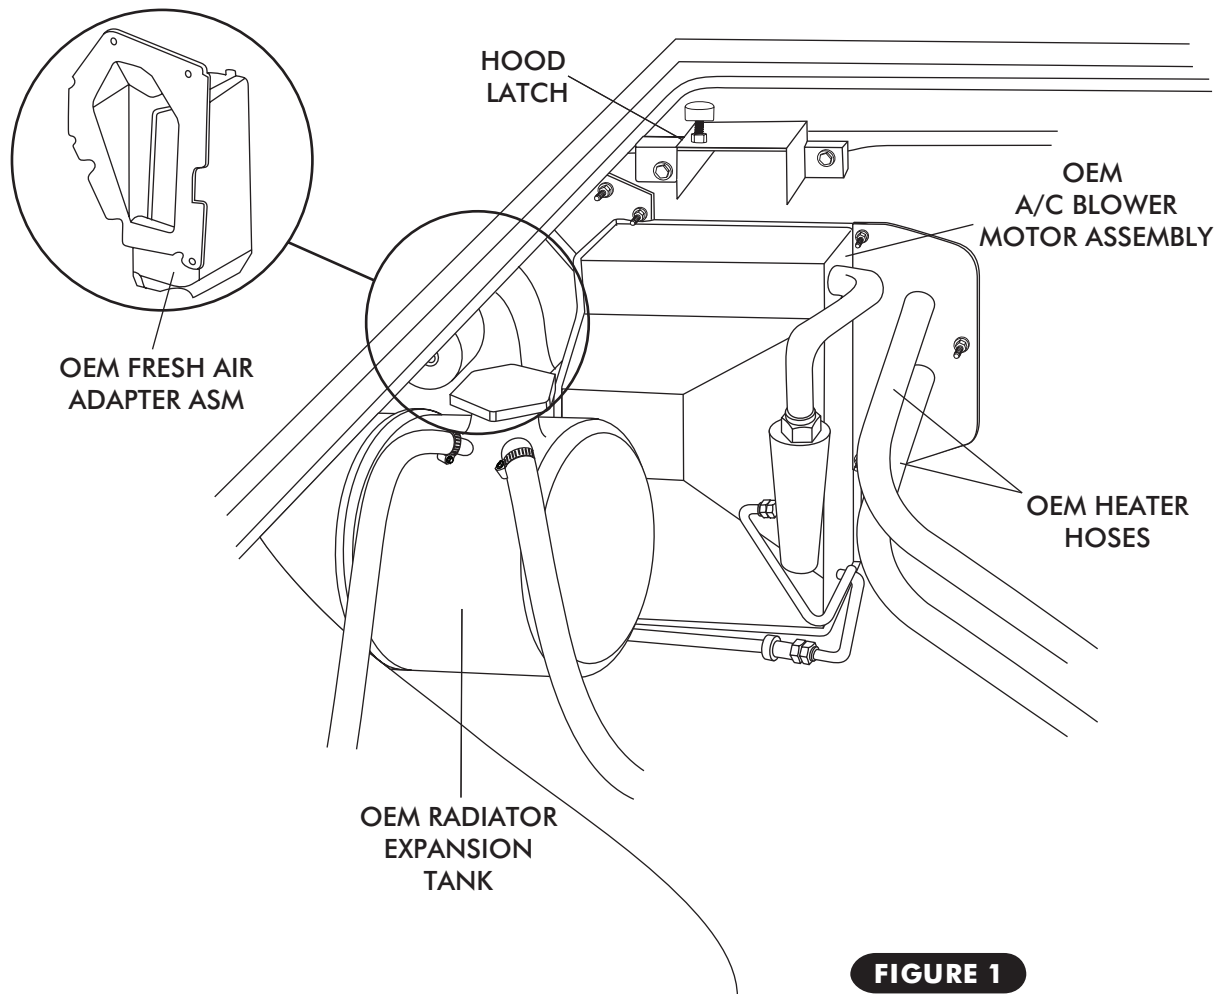

FIGURE 1
- OEM CONDENSER AND DRIER (DISCARD) SEE FIGURE 1
- OEM HEATER HOSES, A/C HOSES, AND HARDLINES (DISCARD). SEE FIGURE 1.